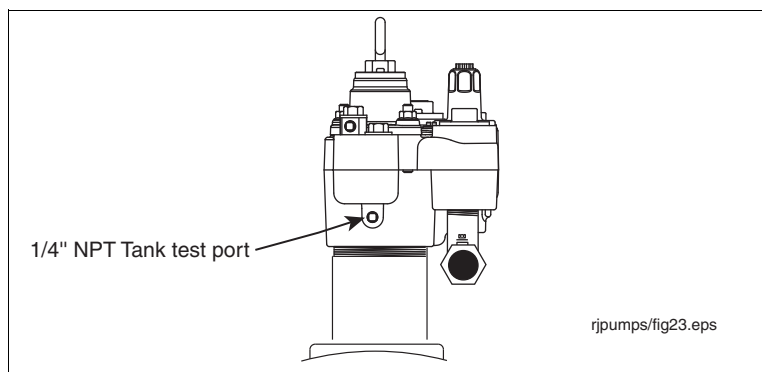

Figure 38. Tank Test Port On Manifold
2. Remove and save the 1/4 " NPT tank test port plug and attach tank testing equipment (see Figure 38).